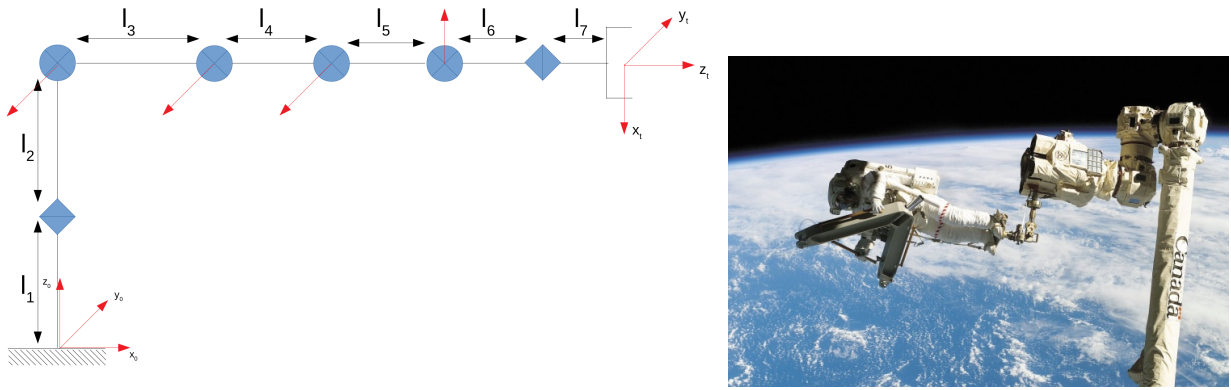

Figure 2: The CanadaArm2 schematic (left) and the real thing on the ISS.
2. [25 points] Find the D-H table parameters for the CanadaArm manipulator shown in Figure 2. Also, find  $T_{04}$ . Note that the Z-directions are given in red arrows for the revolute joints. Orientation of  $F_0$  is given, as is that of  $F_t$ . The circular joints are revolute, and the diamond-shape joints are prismatic.